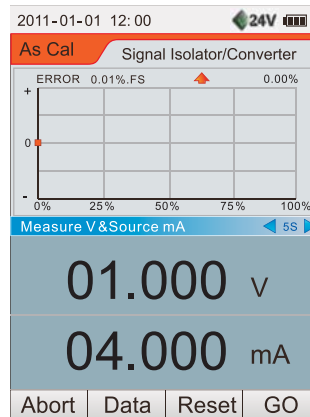

Figure 9.36 Curve display
3. Use **↑** or **↓** key to select the isolator / converter option, press **F4** or **Enter Hold** key to enter As Cal execution interface, as shown in Figure 9.36.